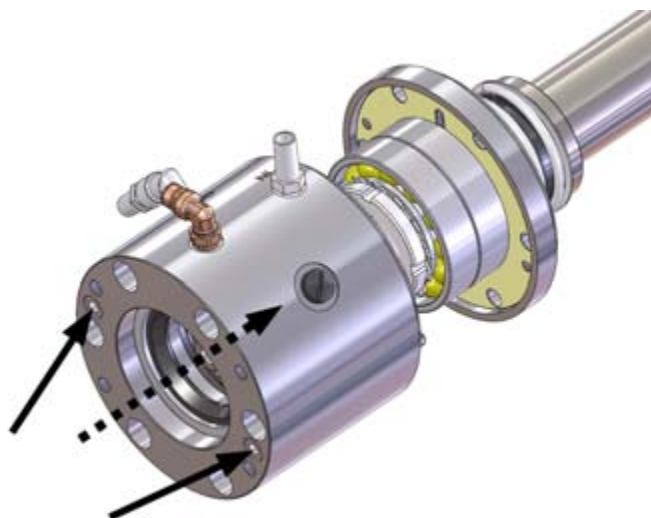

Figure 20. Installing the bearing housing
6. Push the bearing housing onto the bearings. Make sure that the oil channel and screw holes are positioned correctly (figure 19). Fasten the bearing housing with two M6 screws to a tightness of 9 Nm (figure 20).